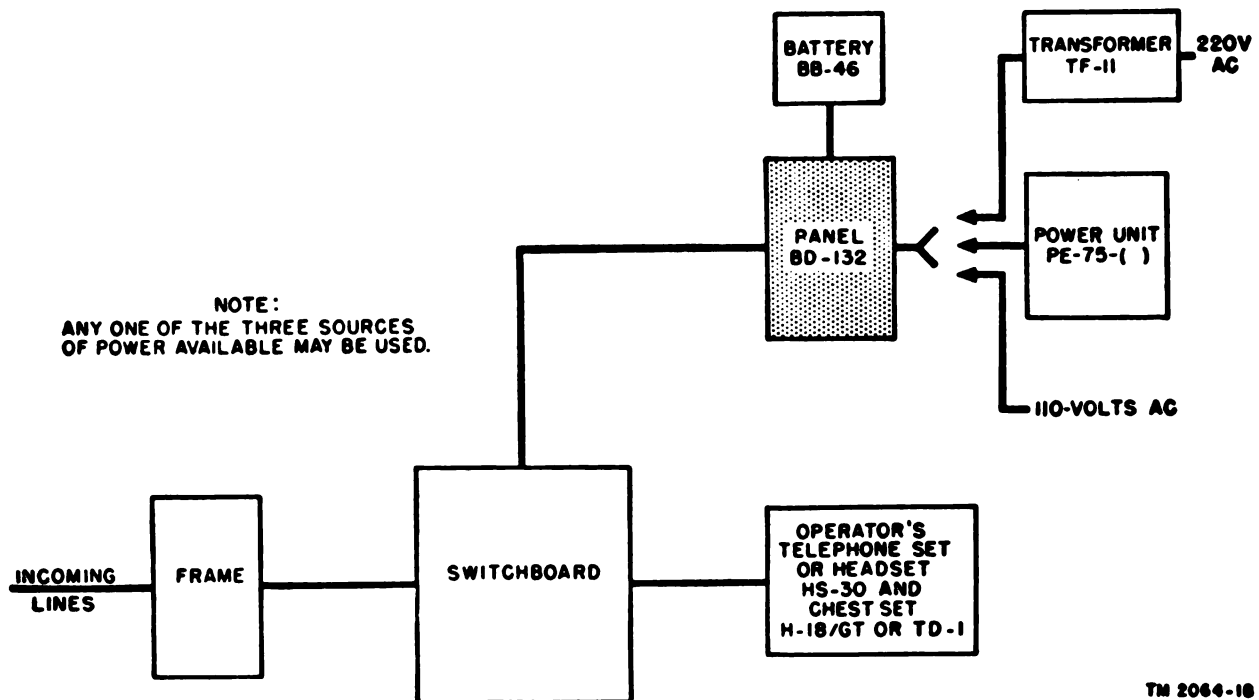

Figure 21. Panel BD-132 interconnected with typical telephone central office set.
- (1) Block diagram of Panel BD-132 as interconnected with a typical telephone central office set (fig. 21).